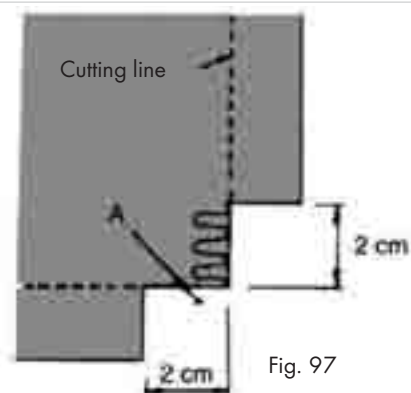

Fig. 97
1. Cut away, before and after the corner, about 2 cm to the seam line (Fig. 97).
2. Sew a stitch further than to the marking "A" on the drawing and then stop (Fig. 97).